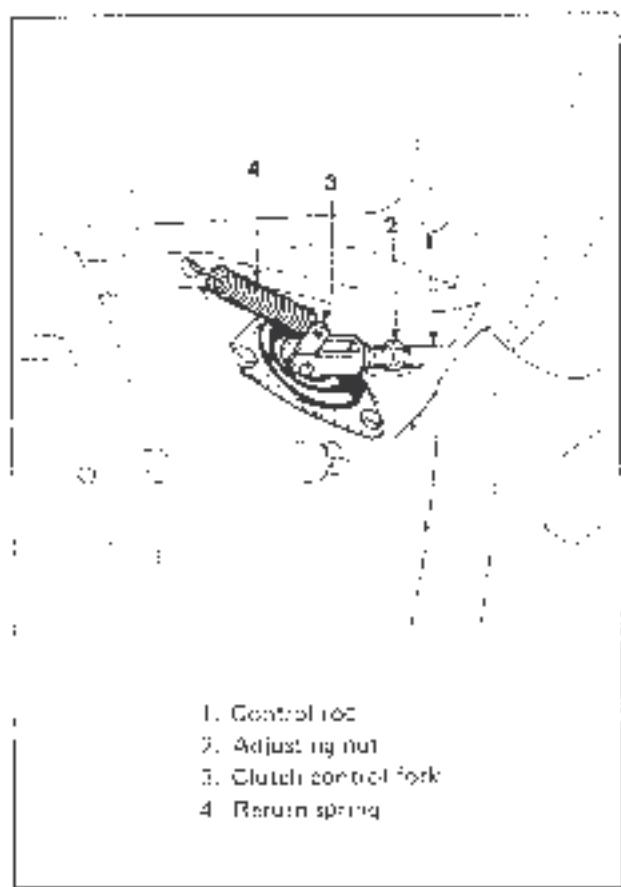

Figure 27. Clutch adjustment
2. If the idle stroke is insufficient (clutch slippage) or excess or disengagement is not complete; adjust the release control rod (see fig. 27) through adjusting nut (2) until an idle stroke of 15 mm is obtained.